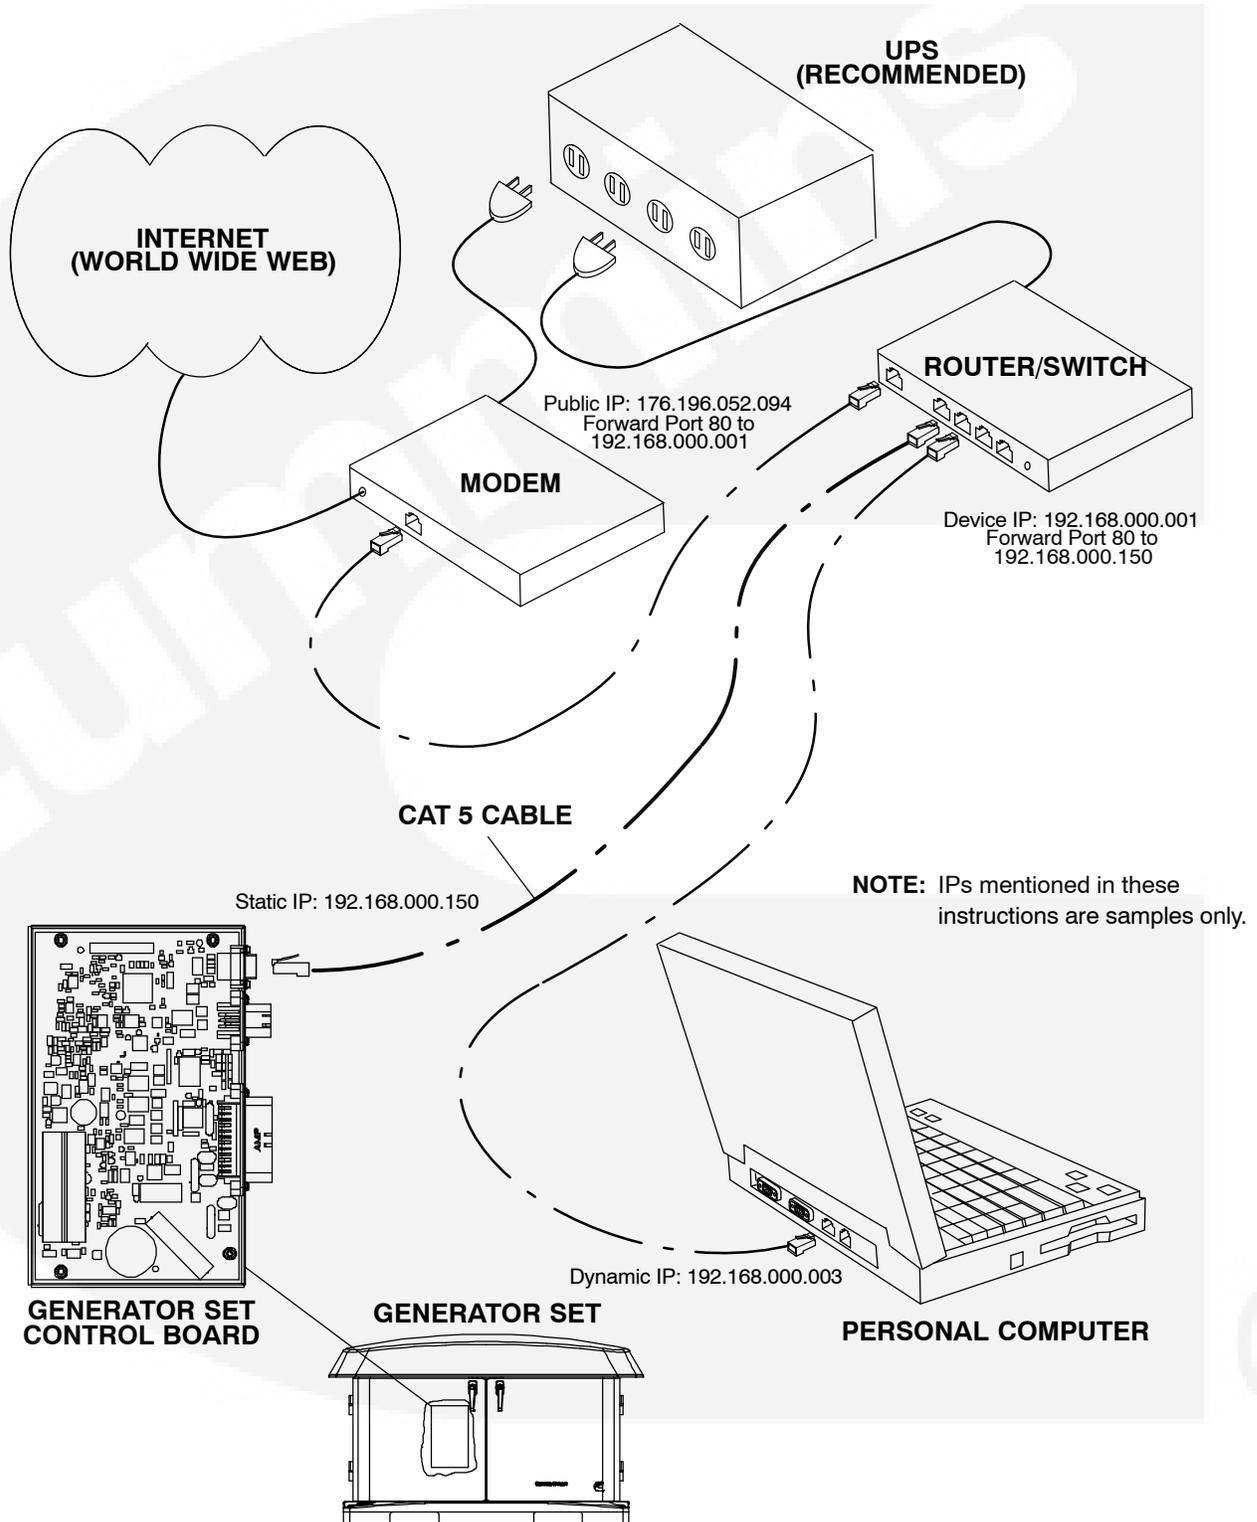

FIGURE C-1. NETWORK CONNECTIONS
2. Set up in-home computer access to the generator set. See Figure C-1.
- 1 - If you can't remember your password, reset it to “cummins” by selecting **Reset Password** on the Network Setup screen on the in-home Operator Panel and pressing the up or down arrow (Figure C-1).